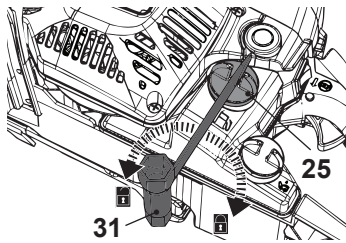

Fig. 14
- Unscrew and remove the fuel tank cap (25) (Fig. 14).
- Wipe any spilled fuel with a soft cloth and reattach the fuel tank cap (25). Use the multi-tool (31) to tighten the fuel tank cap (25) properly (Fig. 14).